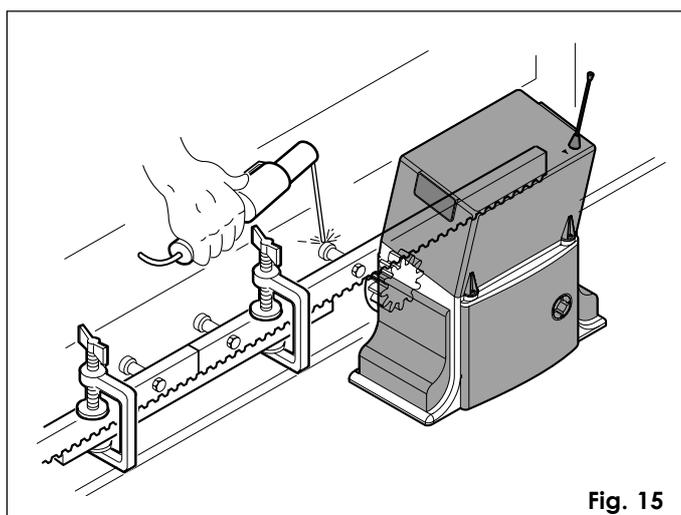

Fig. 15
- Bring another rack element near to the previous one, using a piece of rack (as shown in figure 15) to synchronise the teeth of the two elements.